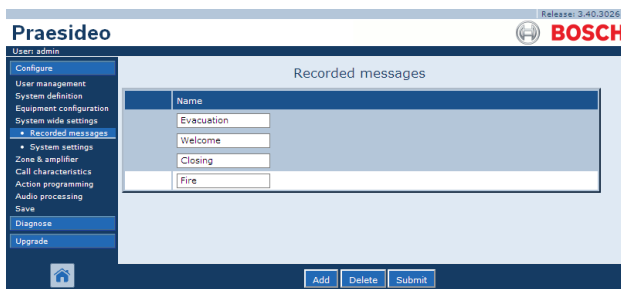

figure 44.7: Unregister message, step 2
- 2 Click anywhere in the row of the recorded message that has to be deleted. The entire row becomes highlighted (see figure 44.7).